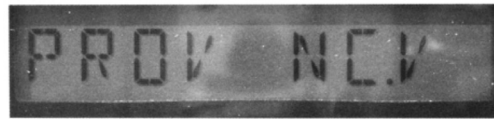

Figure 10.7 - LCD screen changes to PROV NC.V
- Swipe the magnet across the black dot until the screen displays PROV NC.V (Figure 10.7), and then stop swiping.